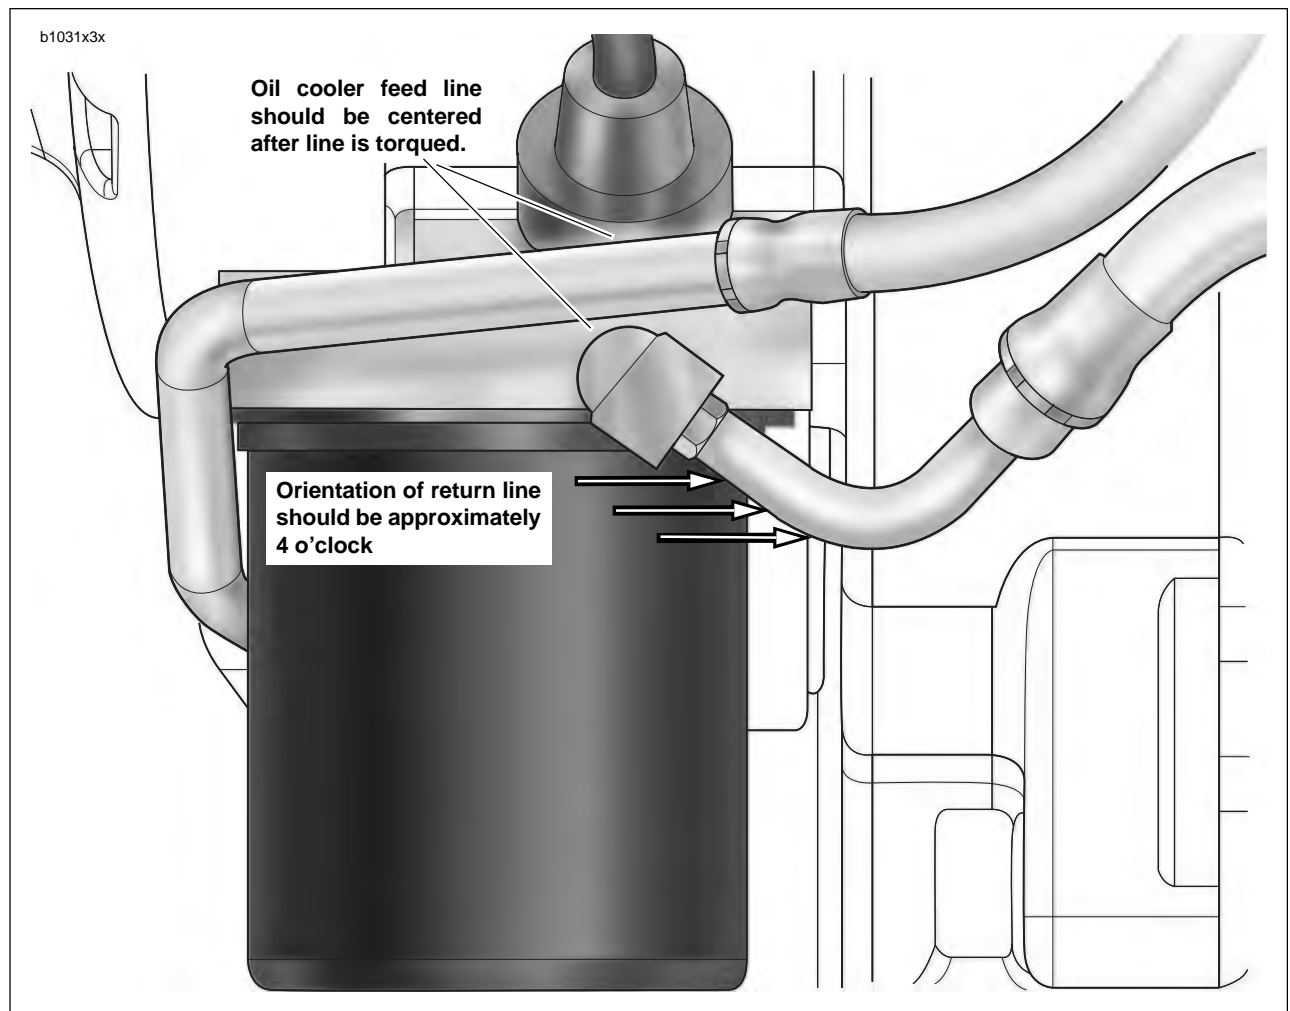

Figure 3-54. Oil Cooler Feed and Return Oil Lines Location and Orientation
29. See Figure 3-54. When torquing the feed oil line from the pump to the oil cooler it is necessary to torque the fitting at the oil pump first, 18-20 ft-lbs (24.4-27.1 Nm), making sure to center the oil line between the oil sending switch and the return oil line fitting on the crankcase.
See Figure 3-54. The orientation of the oil cooler return oil line where it enters the crankcase should be at approximately 4 o'clock to allow for proper alignment and clearance of other components on the vehicle.